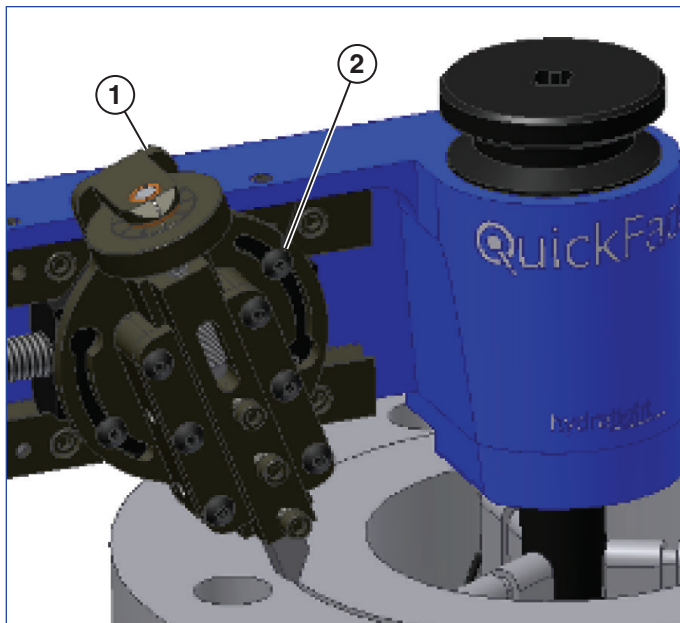

Figure 11
- Loosen the swivel slide screws to tilt the swivel slide. The preferred angle of the slide is between 10° – 30° from perpendicular. Make sure that the slide is tilted enough to make it across the entire face in one continuous operation without running out of travel (see Figure 11). The QuickFace cuts from the OD toward the ID.